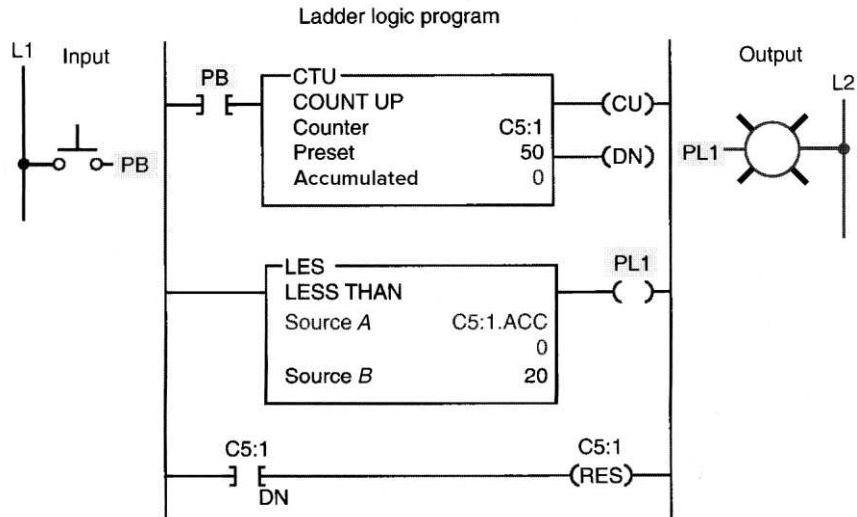

Figure 10-11
- 18-1. For the counter program of Figure 10-11, source A is addressed to the 18-1.____